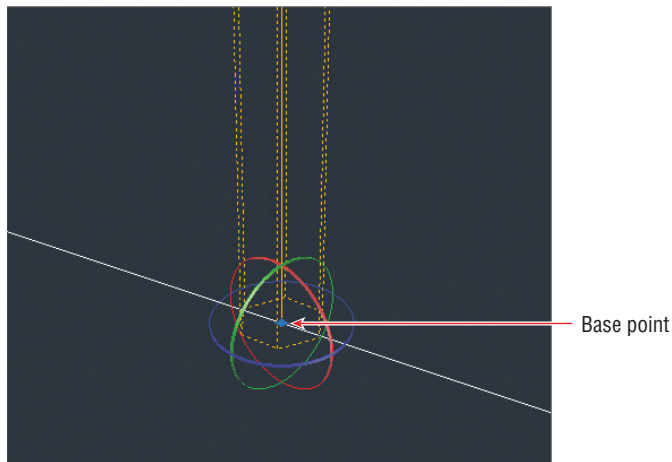

FIGURE 17.23 3D rotate gizmo displaying three colored rings representing the x-, y-, and z-axes
-  6. Select the ribbon's Home tab, and click the 3D Rotate tool in the Modify panel. Select the mast, and press Enter. Click the lower end-point of the vertical line, which is at the center of the mast, to act as the base point. A 3D rotate gizmo appears (see Figure 17.23).
-  8. Press the spacebar to repeat 3DROTATE; then select the mast and press Enter. Click the same base point shown in Figure 17.23, and click the green axis ring to select the y-axis. Type **4**, and press Enter.